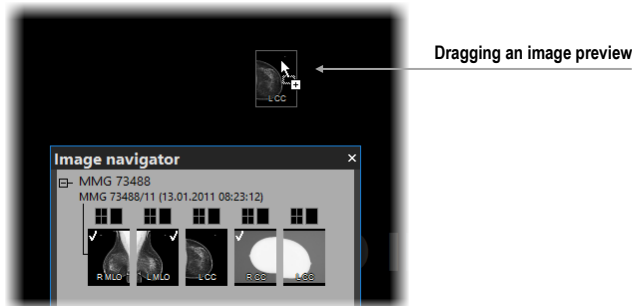

Figure 449 – Dragging an image from the study preview to the screen
- Use the drag-and-drop technique to drag the image from the study overview to the view in the workspace on the left or right monitor (see Figure 449).